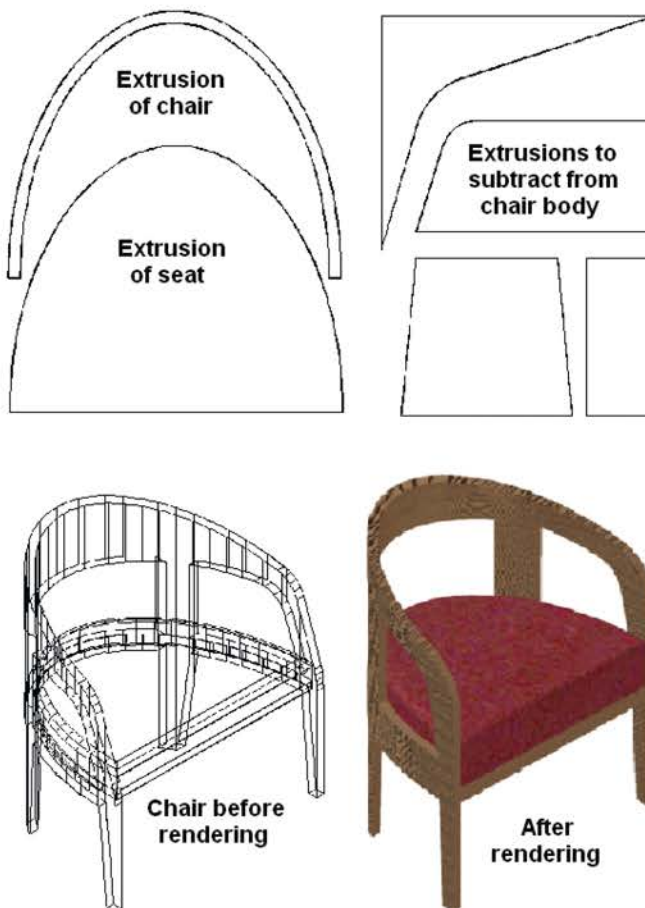

Fig. 16.38 Stages in constructing a chair
5. Add suitable materials and render the result (Fig. 16.38).